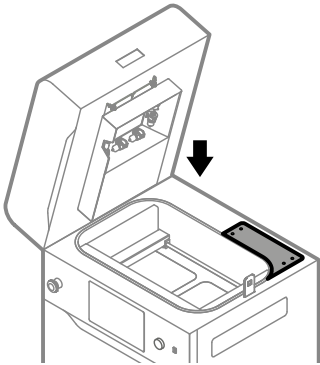

Fig. 13.70 Mount back the access panel.
14. Mount back the access panel on the top side of the printer (fig. 13.70).